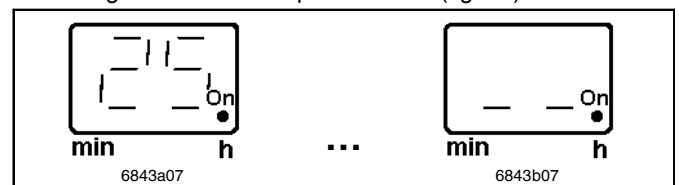

Fig. 28 Display + 25 % increased lubrication (A)
- The increase of the lubricant output is represented in the display of the membrane keypad shortly by " 25 ", then by the right-hand decimal point " - - ." (fig. 28):